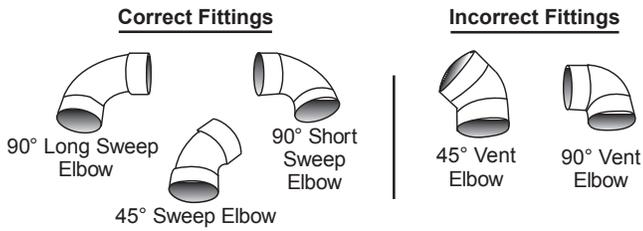

Figure 13. Correct and Incorrect Pipe Fittings
4. Maximum of 6 elbows may be used per pipe. Use only short or long sweep elbows. See **Figure 13** for details.
Important: Do not use vent elbows in this vent pipe installation. See **Figure 13**.